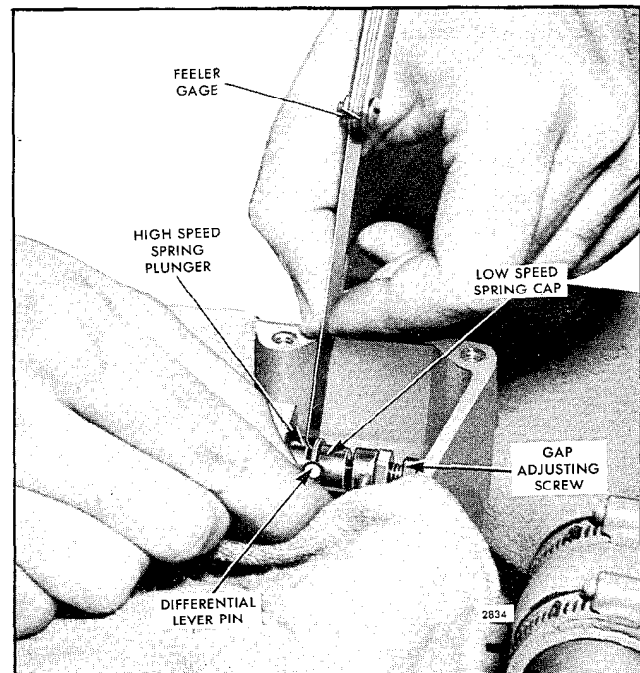

Fig. 1 - Adjusting Governor Gap
6. Check the gap between the low-speed spring cap and the high-speed spring plunger (Fig. 1) with a feeler gage. The gap setting should be .002"-.004". If the gap setting is incorrect, reset the gap adjusting screw. If the setting is correct, the .002"-.004" movement can be seen by placing a few drops of oil into the governor gap and pressing a screw driver against the gap adjusting screw. Movement of the cap toward the plunger will force the oil from the gap in the form of a small bead.